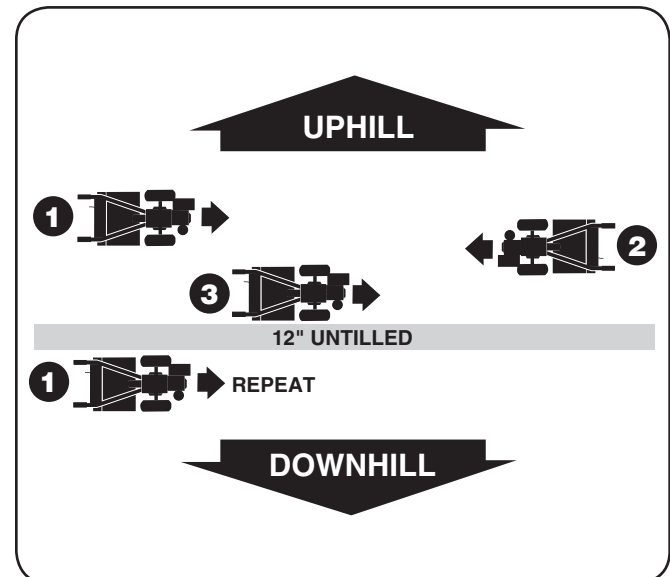

Figure 4-15
- To create a terrace, start at the top of the slope and work down. Go back and forth across the first row. See Fig. 4-15.